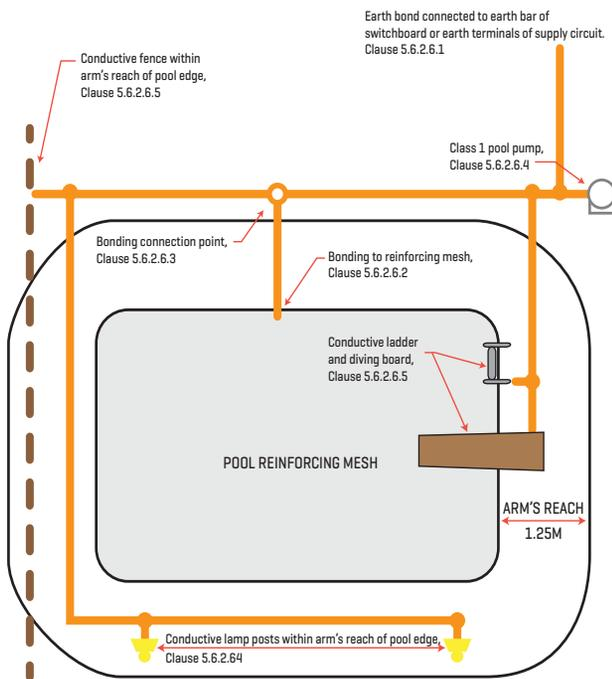

Figure 5.9: Example of bonding arrangement for pools and spas.
- * Order of headings under *Swimming pools and spas* is substantially changed and considerably modified. Due to this, all cross references have been rehomed. A new figure 5.9 *Examples of bonding arrangements* has been added. The new order of headings is:
- * *Bonding arrangement*: the wording in [a] and [c] has been changed but [a] and [d] remain as before. There are no changes in intent. The new Figure 5.9 is also referenced.